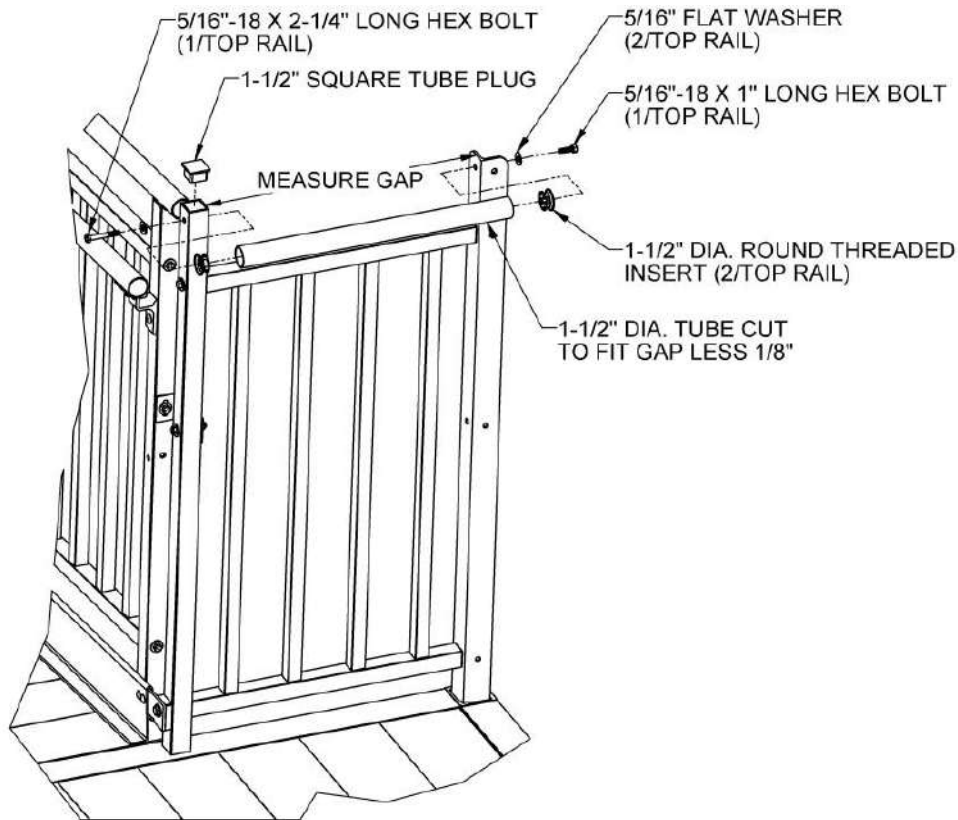

FIG. 5.16
- 5.4.12. Measure the gap between the 1-1/2" square x 42-7/16" long closure post and the platform angle post (FIG. 5.16).
- 5.4.15. Place 5/16"-18 round threaded inserts into both ends of the 1-1/2" diameter round tube (FIG. 5.16). Use a rubber mallet or similar tool to fully seat as needed.
- 5.4.17. Attach the other end of the tube to the closure post using a 5/16"-18 x 2-1/4" long hex bolt through a 5/16" flat washer, the uppermost hole in the closure post and, into the 5/16"-18 round threaded insert (FIG. 5.16).